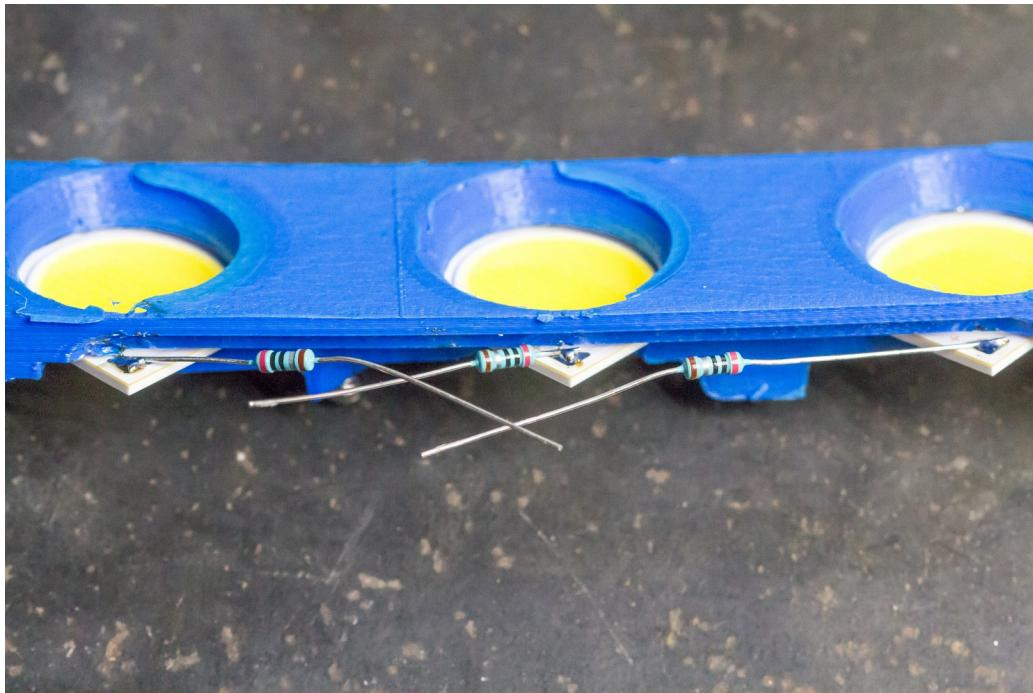

Figure 5: 2-ohm series resistors
8. Solder the 2-ohm resistors onto the LED anodes (positive) as shown in figure 5.